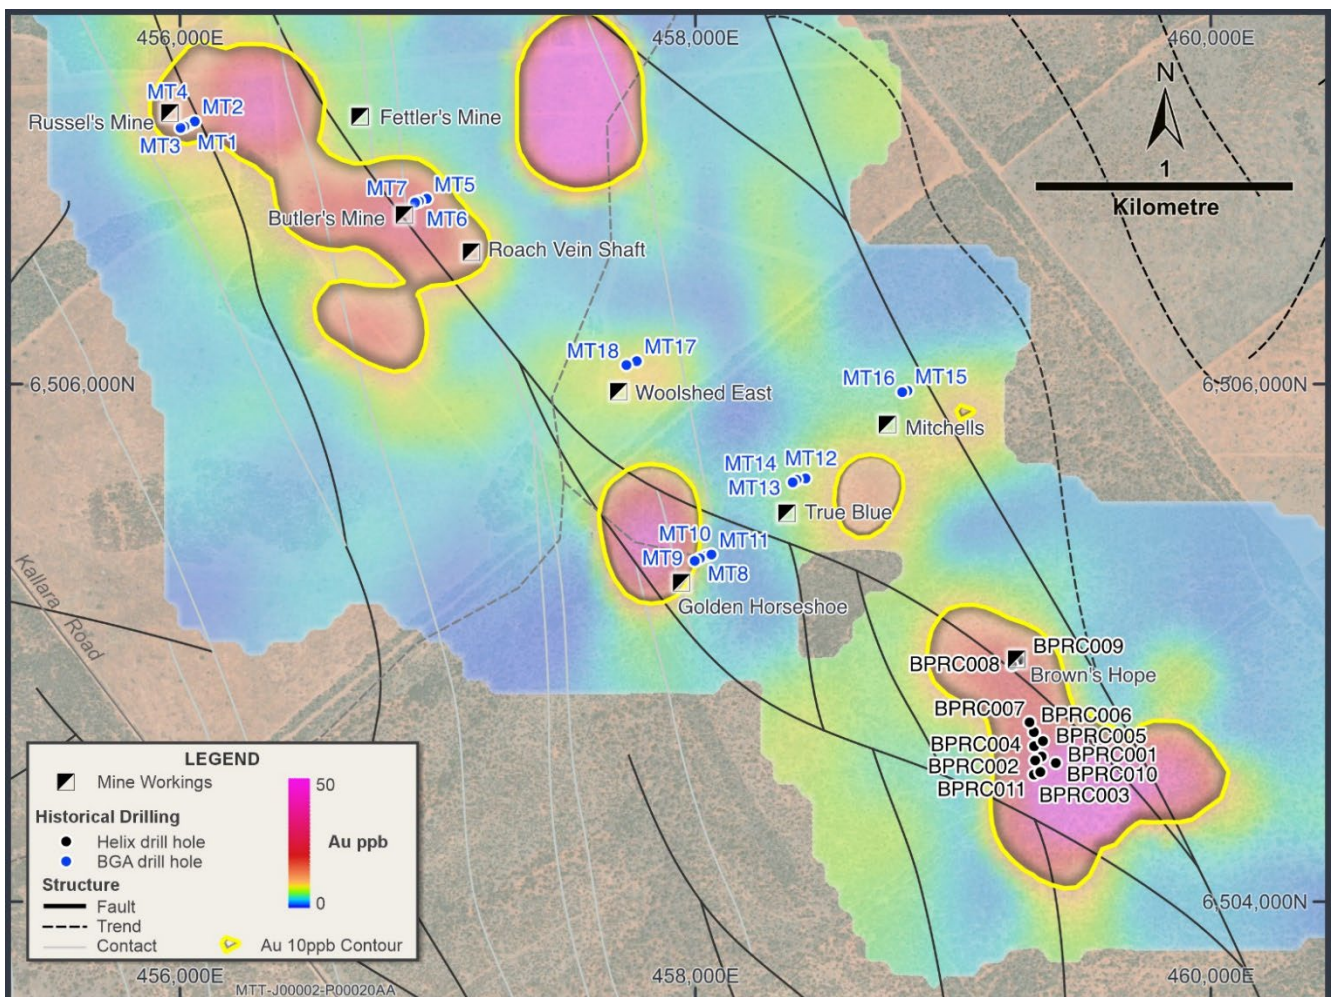

Figure 4: Muriel Tank previous drilling
Previous reverse circulation (RC) drilling tested historical shafts and workings in two periods of exploration (Table 4 and Figure 4). Bendigo Gold (BGA) drilled 18 short drillholes (MT prefix) on EL3125 in 1998, testing several historical workings. Helix drilled 11 drillholes (prefix BPRC) on EL6739 in 2015 and 2018 at the Brown's Hope